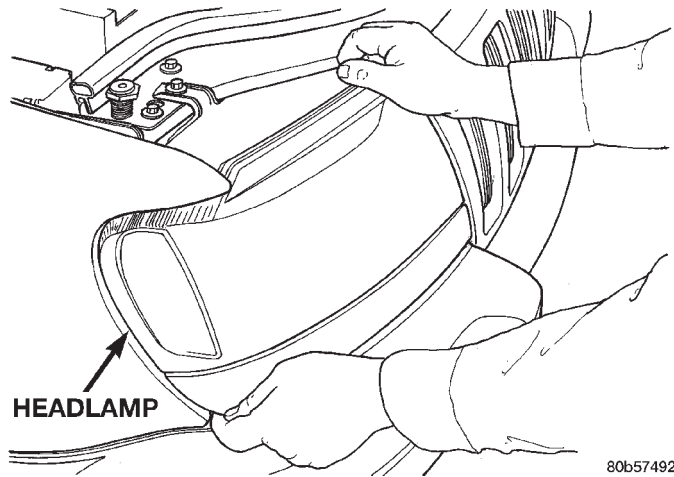

Fig. 4 Installing The Headlamp
(2) Align the headlamp mounting studs with the corresponding holes in the headlamp mounting module (HMM). Forcefully push the headlamp in to secure both of the ball and socket connections (Fig. 4).